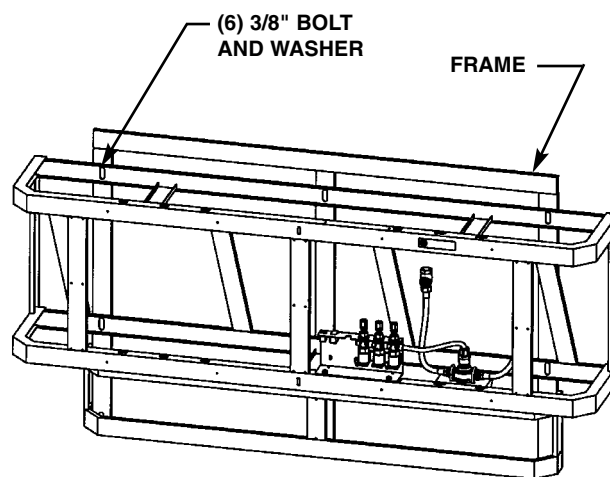

Figure 4
4. Once you have positioned the frame such that it is level and resting on the floor, and flat against the wall or shimmed, use the 3/8" bolts and washers to mount the frame to the wall (see Figure 4).